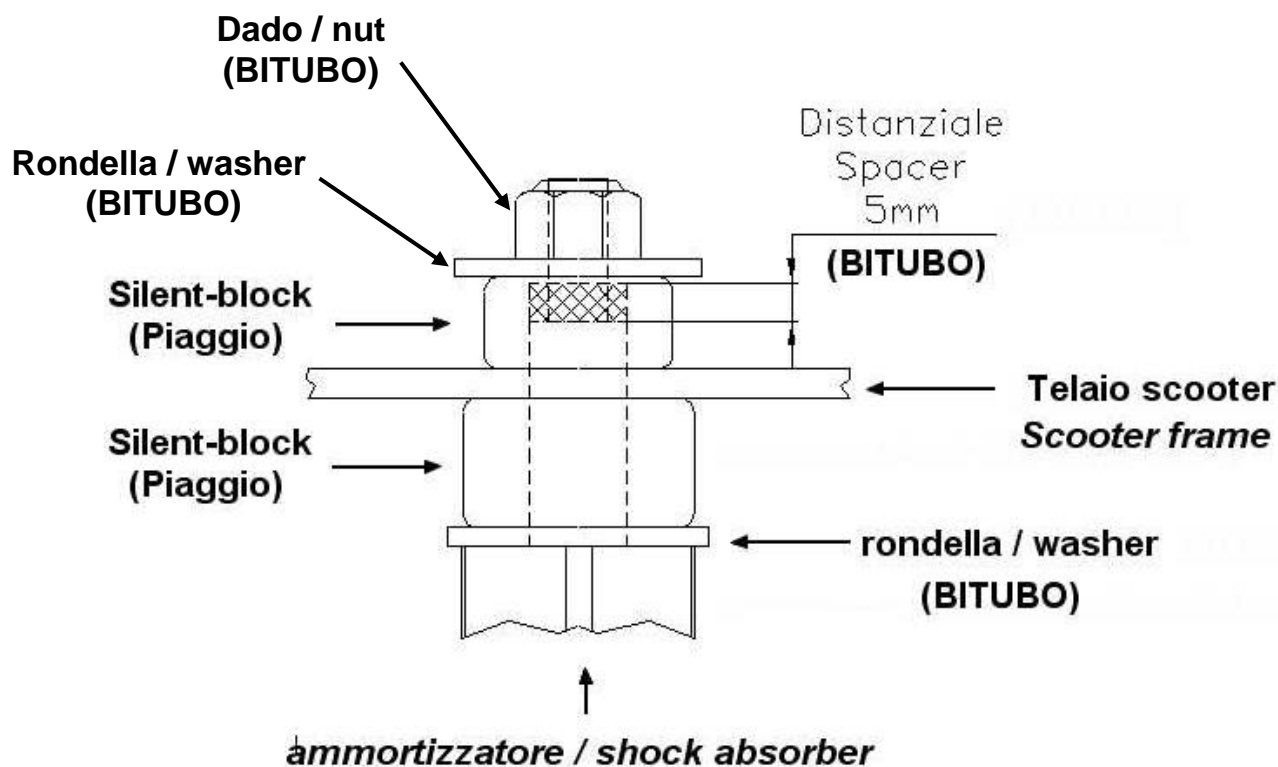

FIG. 1
- Insert the upper attachment follow the scheme in figure 1. Apply the top nut, and screw it at the torque force indicated by the vehicle Manufacturer.
- Insert the two screw of the lower attachments with the spacers as shown in figure 1 and 2. Apply the nuts, and screw they by hand.